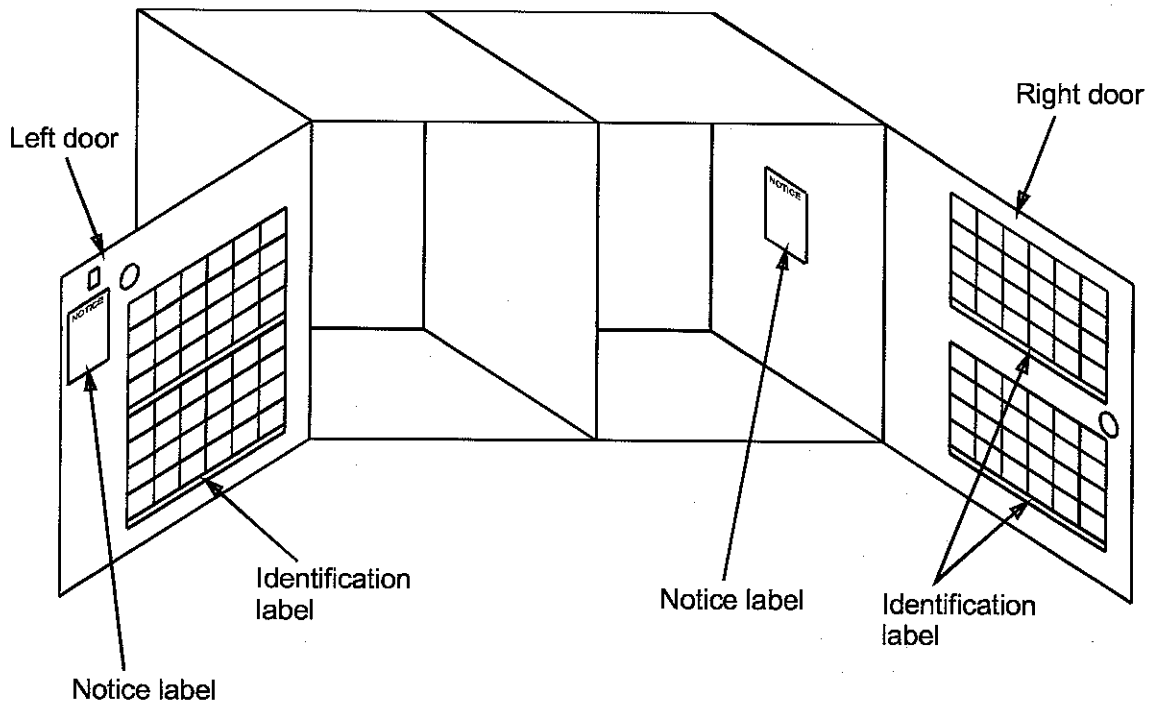

Figure 3—Decal Installation
1. Install the provided identification and notice decals (Figure 3).